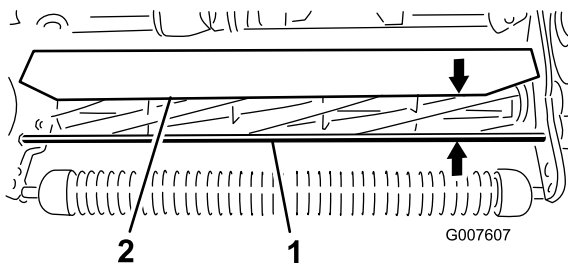

Figure 41
1. Measure the distance from top of the front support rod to the front lip of the shield at each end of the cutting unit (Figure 41).